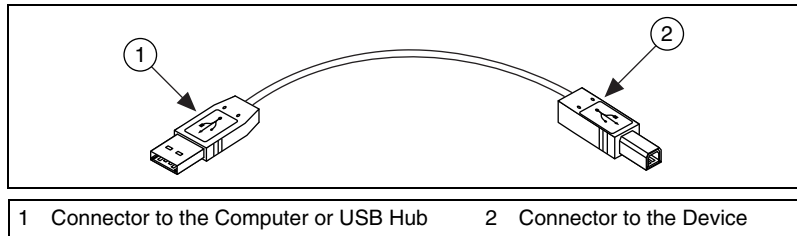

Figure 5. USB Cable and Connectors
2. Connect the cable from the computer USB or IEEE 1394 port or from any other hub or IEEE 1394 device to any available USB or IEEE 1394 port on the device. Connect the other end of the USB or IEEE 1394 cable to the USB or IEEE 1394 port on the device. Figure 5 shows the USB cable and its connectors.